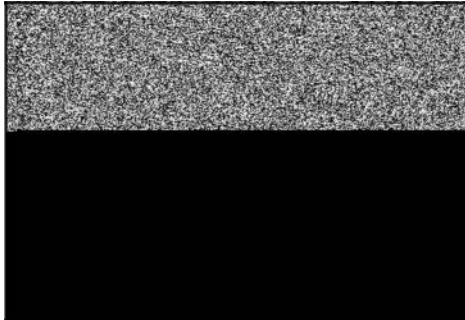

Figure 29
1. Install new Welch plug (A, Figure 29) with a pin punch (B) of slightly smaller diameter than the plug. Press against the plug until it is flat in the carburetor opening. Do not cave in the plug. Seal the